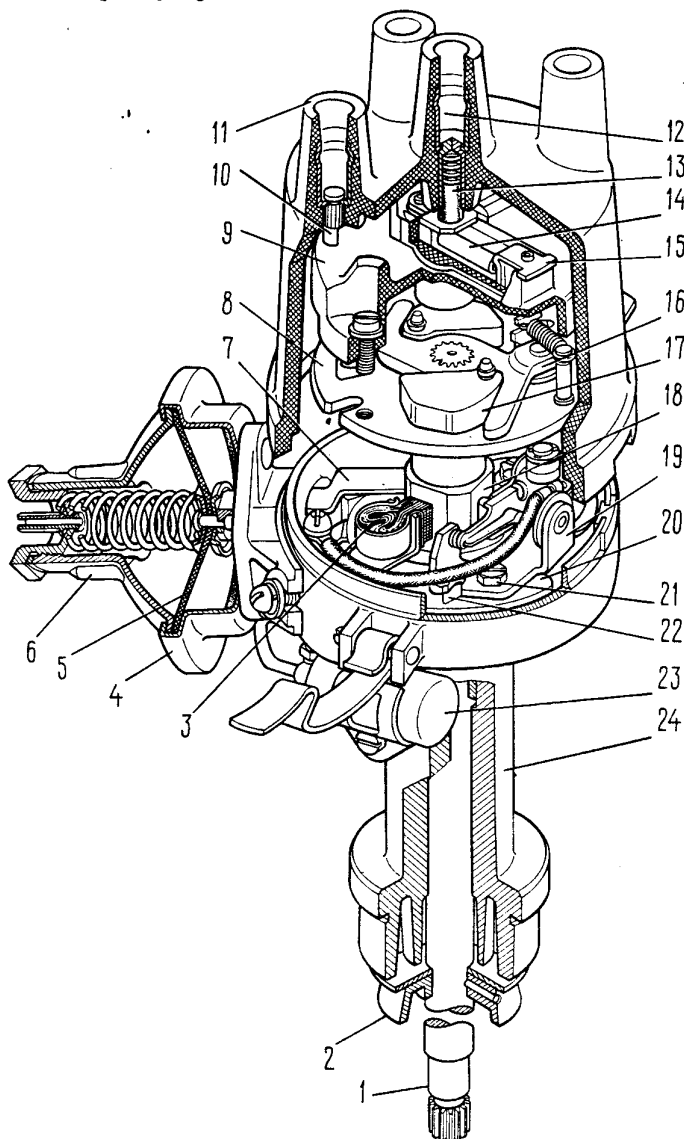

Fig. 7-21. Ignition Distributor 30.3706-02:
- measure the gap with a feeler gauge. If the gap not within 0.35 and 0.45 mm limits, loosen screws 21 (Fig. 7-21) of the breaker bracket, insert the blade of a screwdriver into slot 22 and turn the breaker bracket as required. After adjustment tighten screws 21 all the way home.
From 1980, the car engines fitted with carburettor 2107-1107010-20 are furnished with type 30.3706-02 ignition distributors with a vacuum spark timer (Fig. 7-21).